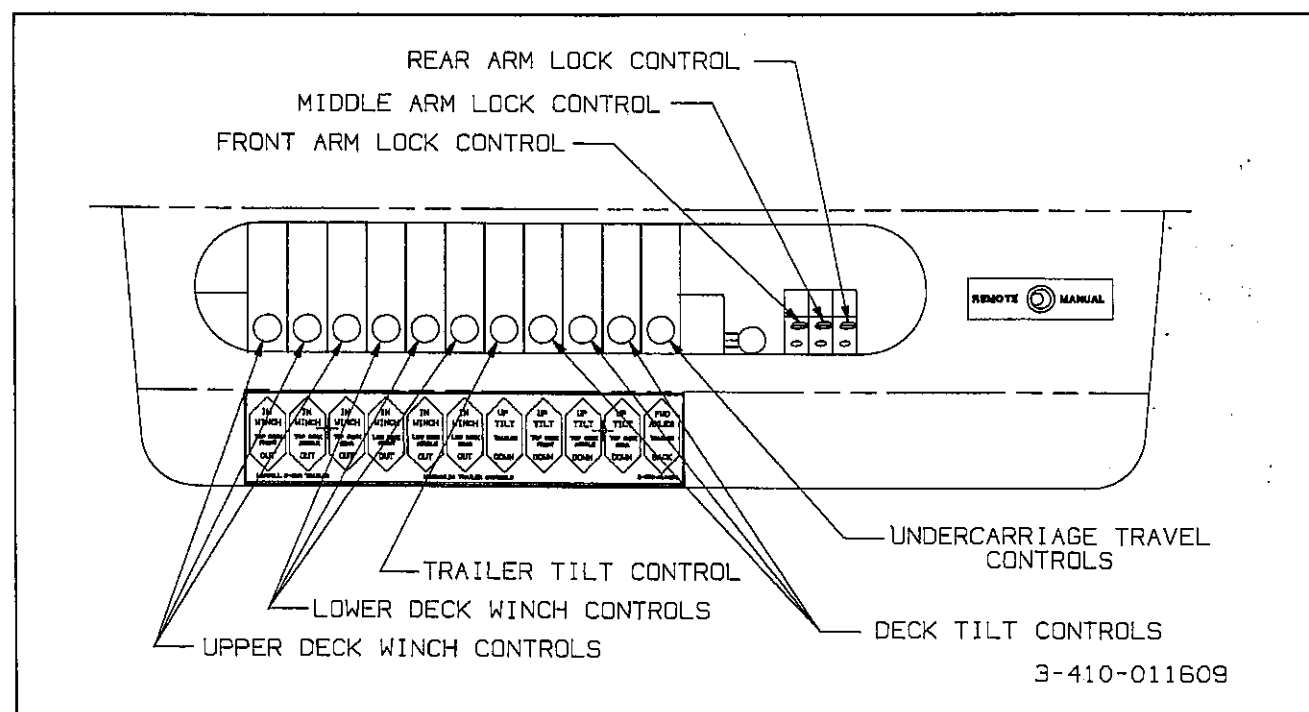
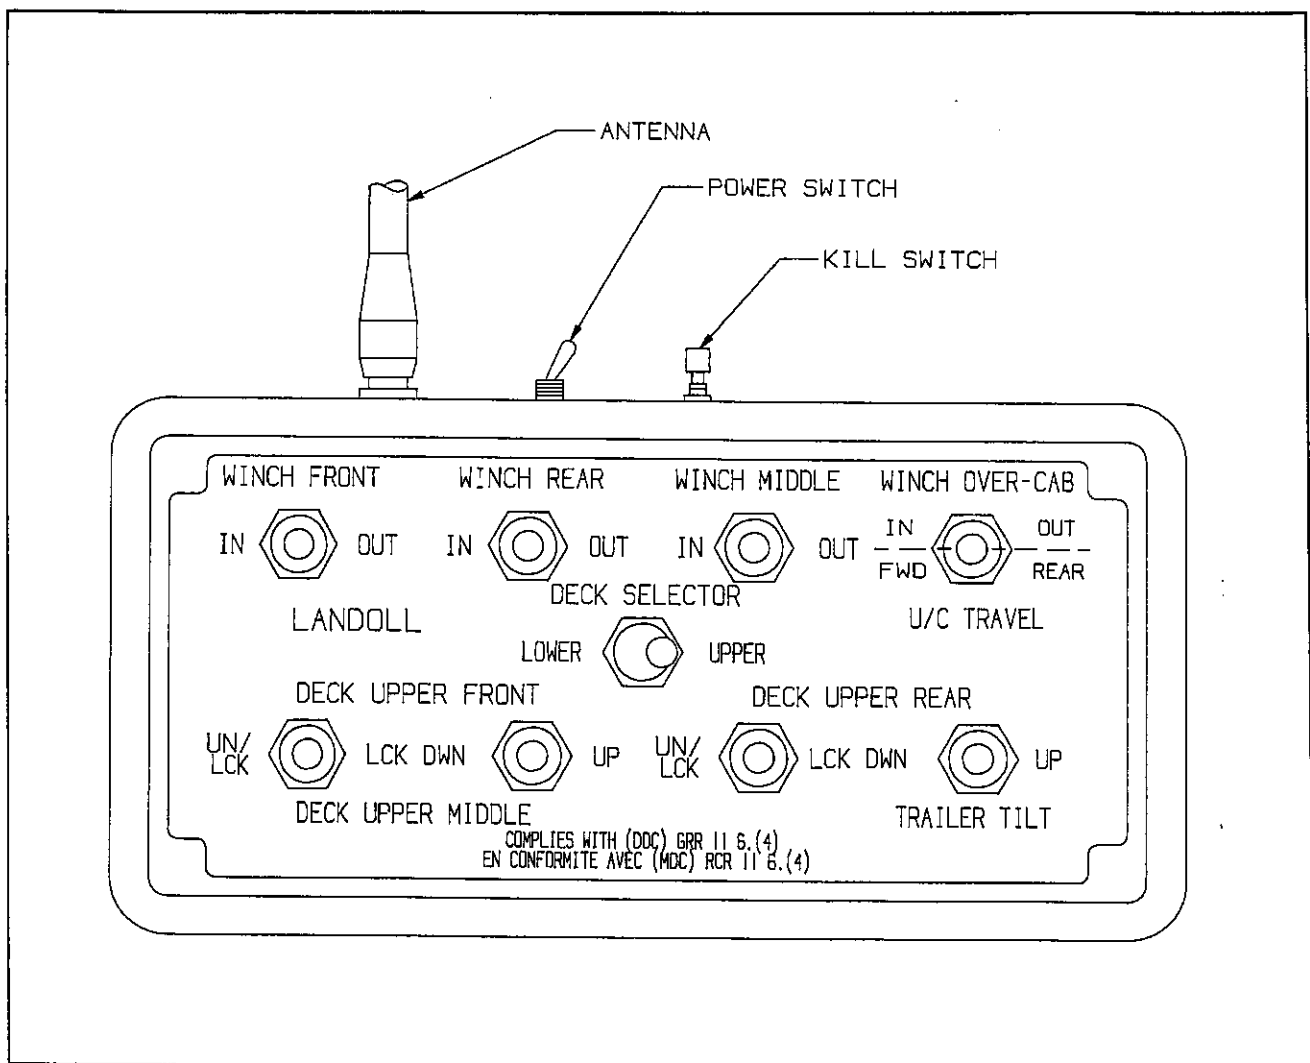

Figure 3-2 Hydraulic Control Levers
Figure 3-4 Remote Control
3-1.2 The king pin plate should be the same height as, or slightly lower than, the latch area of the fifth wheel plate of the tractor. If necessary, connect the tractor hydraulic lines. Use the **TILT TRAILER** lever (see **Figure 3-2**) to raise or lower the kingpin plate sufficiently to allow proper coupling. Drain all air and moisture from the tractor air brake system in accordance with the tractor manufacturer's instructions.
3-4.1 While hydraulic power is operating, raise the front end of the semitrailer with the **TILT TRAILER** lever (see Figure 3-2) until weight is off the landing gear. Raise landing gear. Secure each leg with a park stand retaining pin in fully retracted position before transporting.
3-9.2 The **WINCH** hydraulic levers (see Figure 3-2) are located on the hydraulic control panel or the remote control (see Figure 3-4) if present. It is a three position control:
3-10.1 The power switch is located on the top of the box and must be turned on for the the remote control to operate. (See Figure 3-4.)
- a. Hold the Lock Control in the unlock position (see Figure 3-2) and joggle the TILT control for that arm until it unlocks.